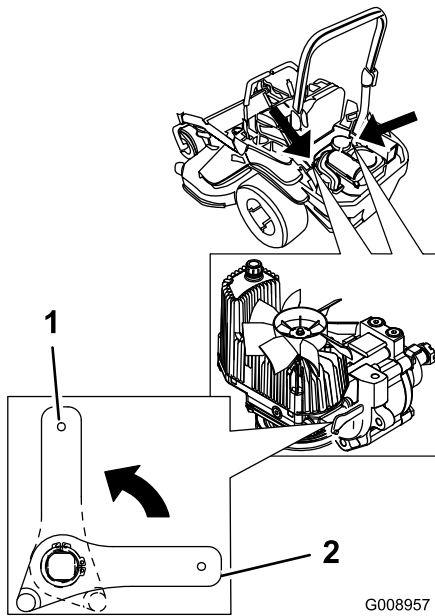

Figure 35
2. Rotate the release-valve levers vertically to push the machine (Figure 35).
4. Rotate the release-valve levers horizontally to run the machine (Figure 35).